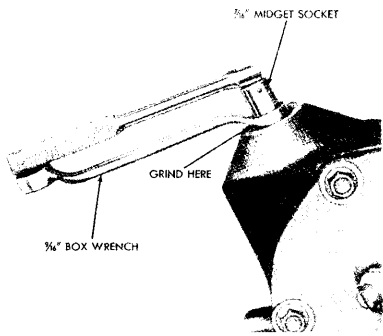

FIG. 25—Valve Spool Preliminary Centering G1205-A
3. Install the valve spool centering wrench (Fig. 25) on the valve
spool adjuster, and locate the valve spool so that the valley between the lands can be seen through the pressure port. Lock the adjuster with the lock nut, as shown in Fig. 25. This is only a preliminary adjustment.